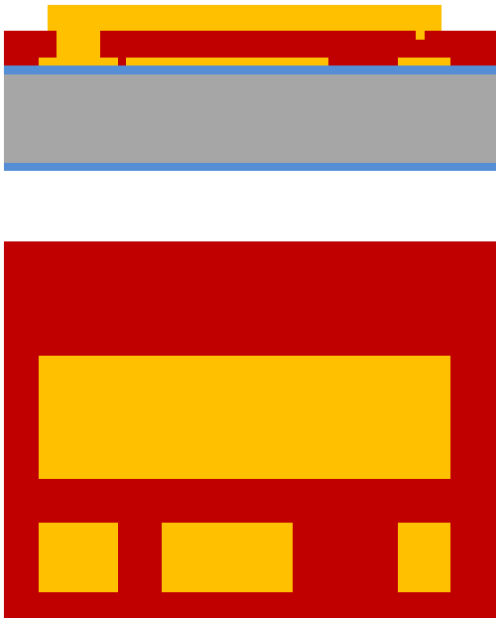

Figure 14 *Wet etch of metal seed layer.*
10) Wet etch Cr/Au seed layer (Figure 14):